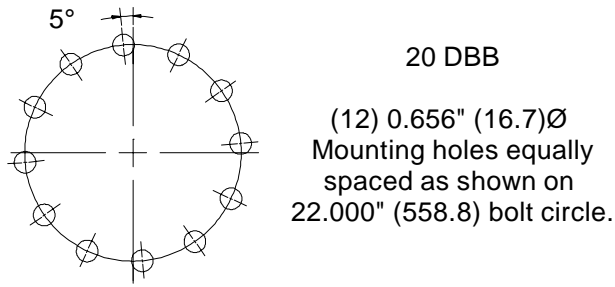

Figure 2
- 2.1.2 Figure 2 show the mounting dimensions for the brake to the machine frame or reaction bracket.